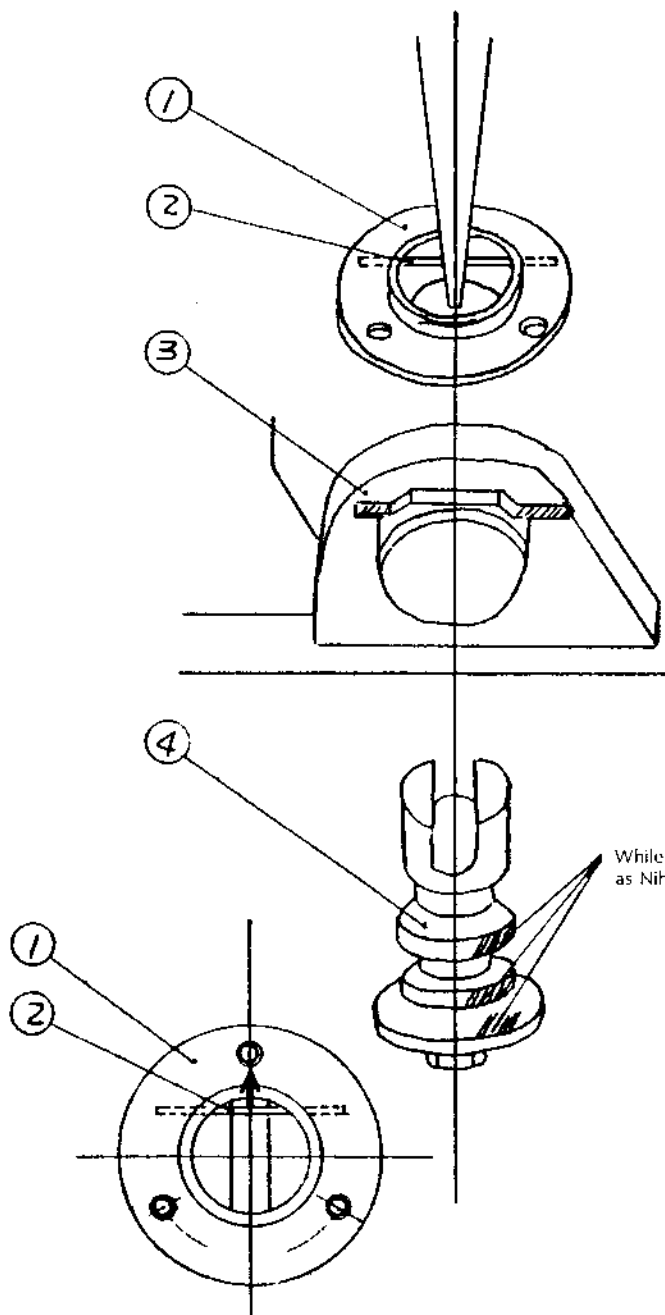

Fig. 1
- 1 Have the rewind shaft holder (2) to come through the rewind bearing (1), take the rewind shaft holder with a pincette and fit it together with the rewind bearing into the base plate cover. Ensure that the rewind shaft holder properly fits in the groove shown by shade lines at left on the base plate cover, and tighten it with screws. While pushing in, apply sufficient amount of cold resistant grease such as Nihon Koyu #23, or light color grease for appearance.
- 2 To install the rewind shaft (4), as shown in Fig. 1, adjust the slit of the rewind shaft and the rewind shaft holder to be nearly at right angles to each other, rewind the rewind shaft holder from the slitting of the rewind shaft in the direction of the arrow mark, push until it is hidden by the rewind bearing, then push up the rewind shaft.